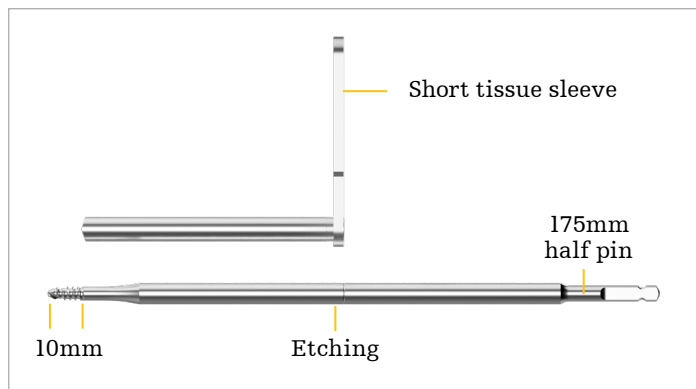

Figure 20
- **175mm half pins:** must be used with the short tissue sleeve; contain one etching **(Figure 20)**